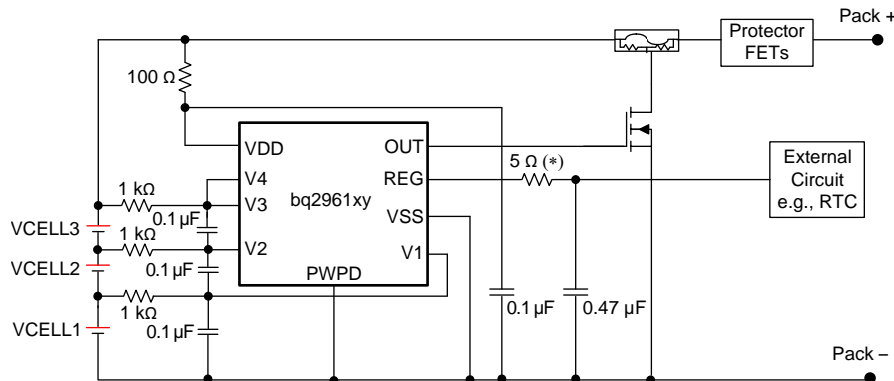
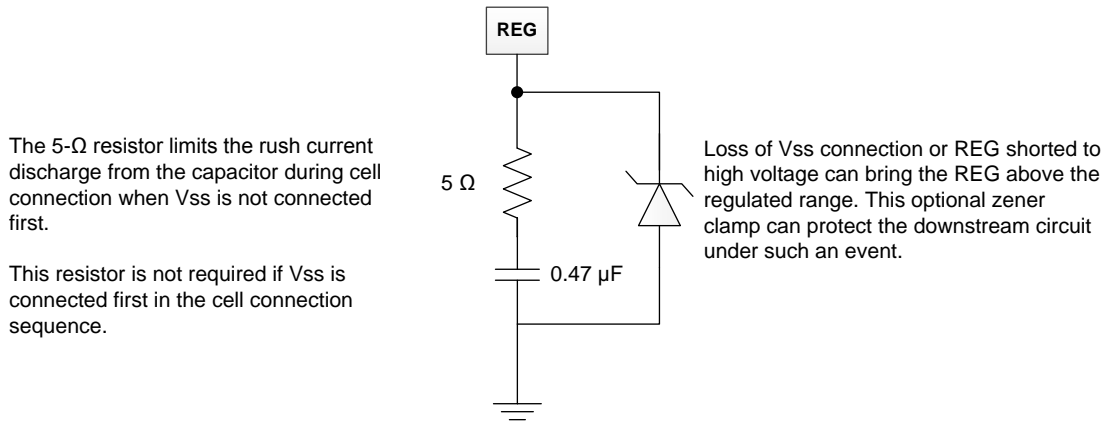

Figure 17. 3-Series bq2961xy Schematic
Figure 18. 5-V Zener Diode
1. If VSS pin cannot be connected first, it is required to add a resistor of a minimum of 5 ohms to a maximum of 10 ohms (a 5-ohm resistor is used in the reference schematic, Figure 17) in series with the REG capacitor. When VSS is floating, the REG capacitor always charges up to the VDD voltage. When VSS is finally connected, the REG capacitor will be discharged. Adding a small resistor in series reduces the current strength and avoids any potential damage to the REG pin. The 5-ohm resistor can be placed in series with the REG connect circuit (as shown in Figure 17) or in series of the REG capacitor (as shown in Figure 18). Placing the resistor in series with the REG circuit results in a small drop of VREG (for example: max loading of 1 mA with a 5-ohm resistor will drop 5 mV on VREG), but such a connection can protect against rush current discharge from both REG capacitor or external filter capacitor connected to the REG pin. Placing the resistor in series with the REG capacitor is an alternative to avoid additional drop in VREG if the filter capacitor used by the external circuit is much smaller than the REG capacitor.
3. Cell should be connected to the lower V_n pin; the unused V_n pin should be shorted to the (V_{n-1}) pin. See Figure 17 for details.
4. A zener diode can be added to the REG pin to VSS as shown in Figure 18. This is recommended to protect the circuit connected to the REG pin if floating VSS in the field is a risk concern. When VSS is floating (during cell connection when VSS is not connected first or in system fault with BAT– wire broken), the REG voltage always pulls up to VDD. In a 4-S configuration, the REG voltage can reach approximately 16 V with VSS floating. Adding a zener diode clamps the REG voltage to a safe level for the external circuits connected to the REG pin. Having the zener diode can also protect the external circuits if REG pin is shorted to OUT pin or any other high-voltage output terminal. If a zener diode is used, it is recommended to put the diode on the battery side with the bq296xxx device to allow protection on both the REG pin as well as the circuit connected to REG under floating VSS condition. The resistor in series with the REG pin is not required in this case.